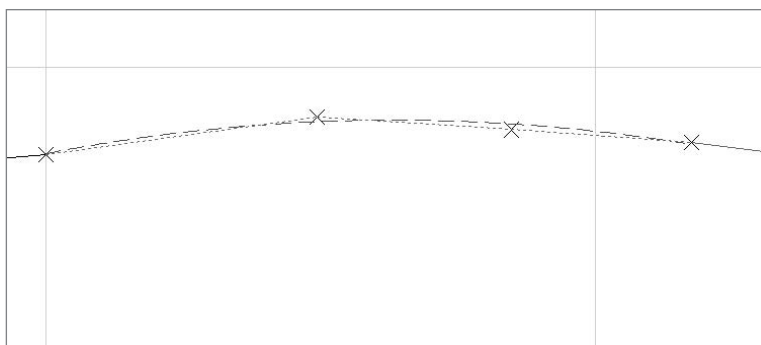

Figure A.3
2. Zoom in on lines drawn in profile, as shown in Figure A.3.
6. At the **Select lines, arcs, polylines or profile objects or [Undo]:** prompt, continue selecting the remaining magenta lines from left to right. As you select the lines, a red, dashed preview parabola will appear, as shown in Figure A.3.